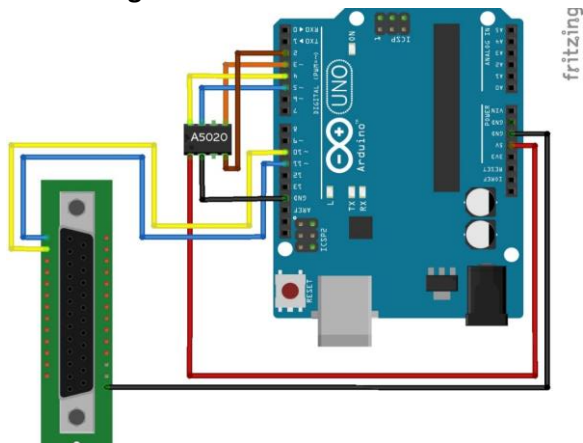

Figure 2 Connecting the Arduino to the Create and optical flow sensor. USB port connects to the Raspberry.
2. Wire the Arduino as showed on figure 2.